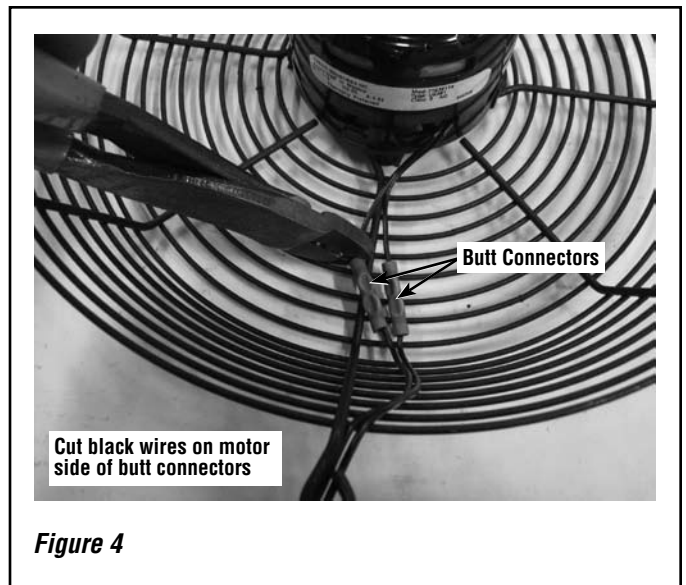

Figure 4
Step 6. Cut both butt connectors on the motor side. **Note: Cut at the connector being careful to not remove any more wire than is necessary.** See *Figures 4 and 5*.